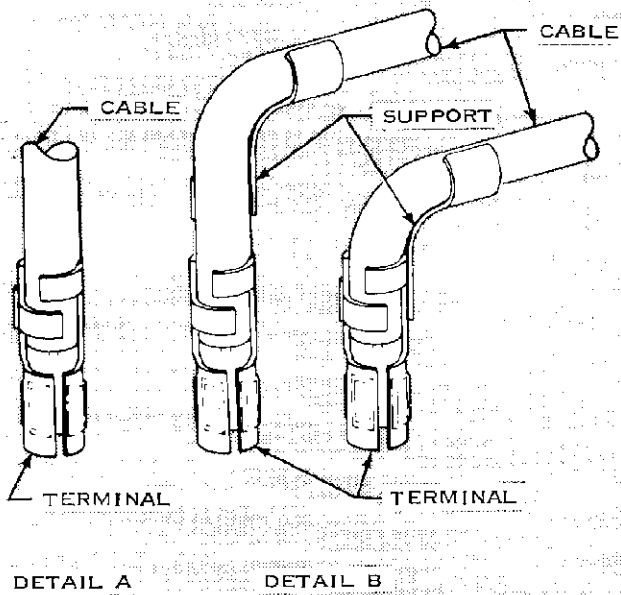

FIG. 4
- (f) The completed Crimped Terminal is shown in Figure 4, Detail A.
The Cable Support is used on Ignition Cables for right angle applications. The Support may be installed on the Cable above the Ignition Terminal or with one end of the Support clamped around the Terminal. See Figure 4, Detail B.